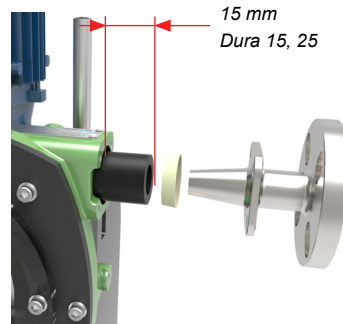

Figure 16. - 15mm protrusion (standard port flange)
7. Run the pump forward and stop when the hose is protruding 15 mm for Dura 10, 15 and 25 from the pump housing flange face. (Figure 16)